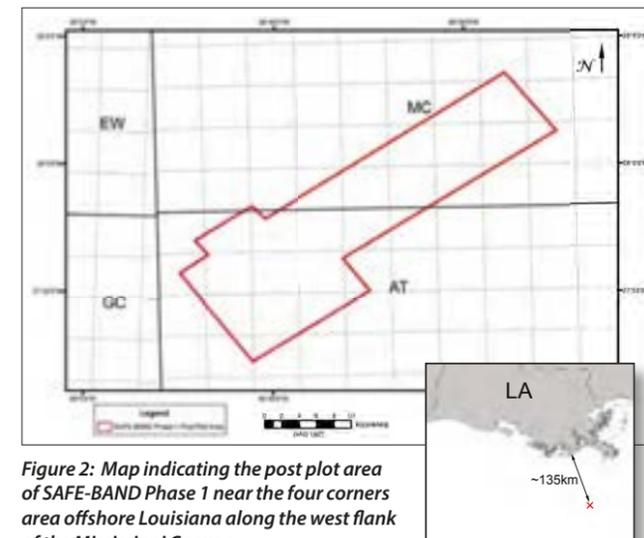
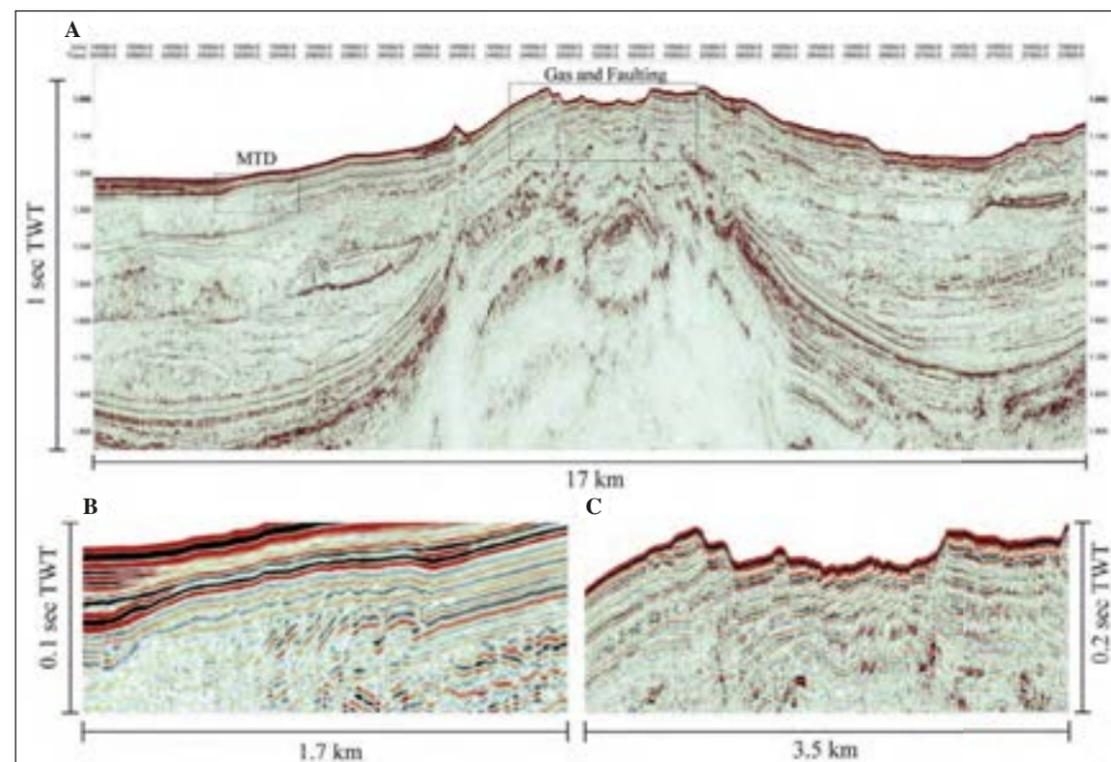

Figure 2: Map indicating the post plot area of SAFE-BAND Phase 1 near the four corners area offshore Louisiana along the west flank of the Mississippi Canyon.
Figure 1:
As an example of this type of dataset, a consortium consisting of NCS SubSea, Geotrace, and Spec Partners recently conducted a regional UHR3D survey in the central Gulf of Mexico near the four corners area of Alaminos Canyon, Mississippi Canyon, Ewing Bank, and Green Canyon (Figure 2). This survey, known as SAFE-BAND, was acquired with P-Cable technology employing an 18 x 100m streamer spread with a group interval of 6.25m and a cross-line spacing of 12.5m. This configuration, totaling 288 receiver groups, yielded four-fold coverage at a shot spacing of 12.5m with a natural bin size of 3.125m x 6.25m. The data were collected with a 0.25 millisecond temporal sampling interval, and were later subsampled to a 0.5 millisecond interval during processing.
Figure 1 shows a broad-scale representation of the complex subsurface geology with blow-ups illustrating the high resolution in which mass transport deposits, gas and faulting are resolved.
Figure 3: A, B – Portions of the interpreted seafloor horizon taken from the south-west (A) and north-east (B) portions of the SAFE-BAND Phase 1 area (see Figure 2). Area A corresponds to the salt feature imaged in Figure 1 A and C. Five features are designated by letter with a corresponding profile presented below. C – Expulsion mound initiation. D – Rapid flux/mud volcanism. E – Hydrate formation and free gas. F – Exposed hydrate with nearly breaching free gas. G – Collapse feature.